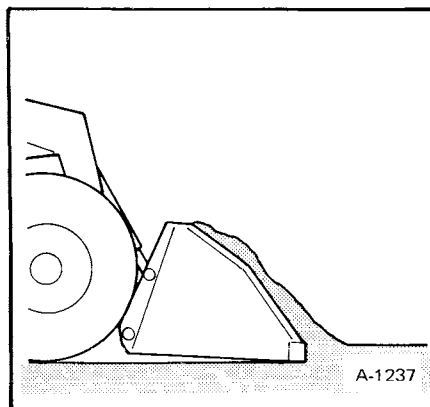

Fig. 23 Filling Bucket
4. Continue driving forward until bucket is filled (Figure 23).